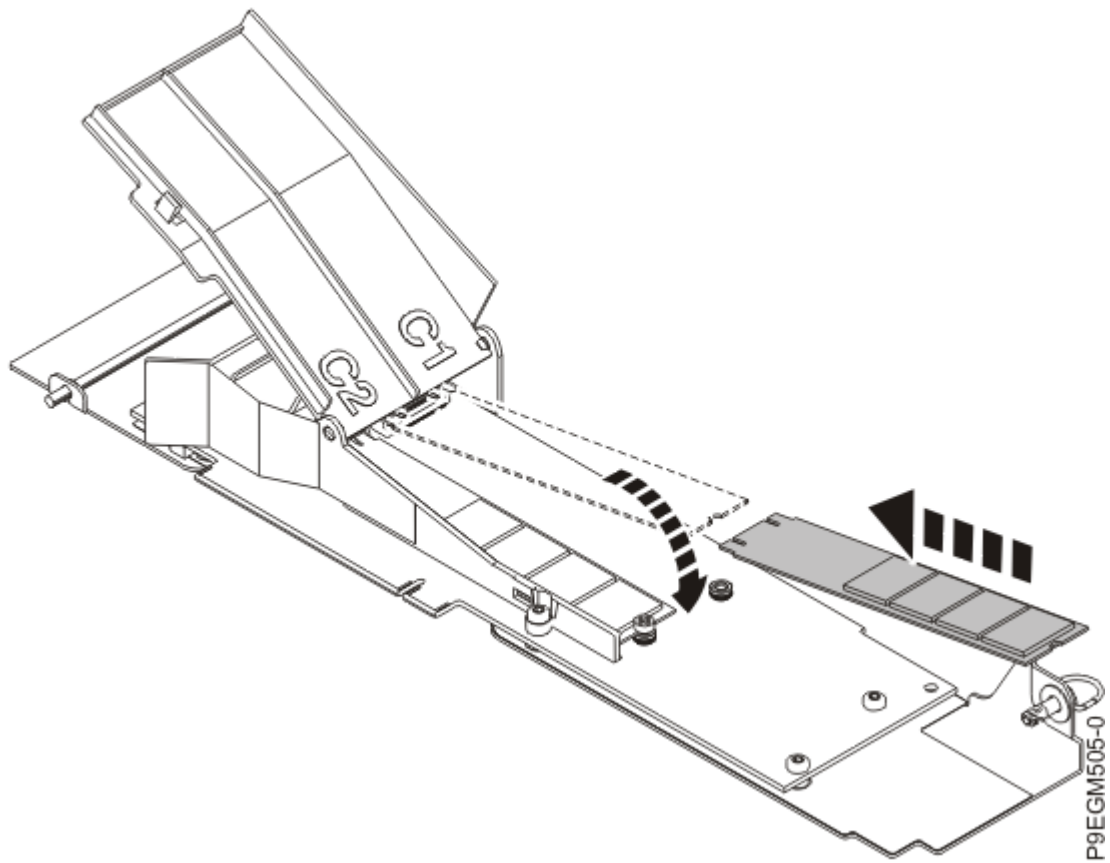

Figure 34. Installing an NVMe M.2 flash module
2. Slide one of the new NVMe M.2 flash modules into the NVMe M.2 carrier card socket. See Figure 34 on page 40.